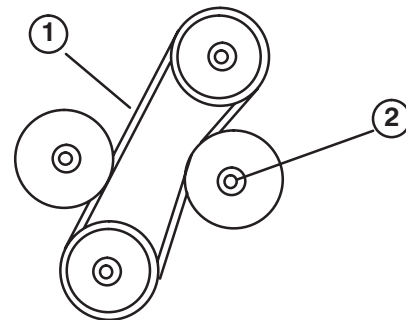

Figure 53
3. Belt should deflect 1/4 in. (6 mm) midway between the pulleys with 5 lb. force (22 n) (Fig. 53). If deflection is incorrect, proceed to step 4. If correct, proceed to step 5.
4. Loosen locknut securing adjustable idler pulley (Fig. 53). Push idler pulley against belt until proper deflection is achieved and tighten idler pulley locknut (Fig. 53).
2. Loosen locknut securing adjustable idler pulley, slide pulley away from belt, and remove belt from pulleys (Fig. 53).
3. Install new belt and adjust for proper tension. Push idler pulley against belt until belt deflects 1/4 inch (6 mm) with 5 lb. force (22 N·m) midway between top pulley and stationary idle pulley. Tighten idler pulley locknut to secure adjustments (Fig. 53).